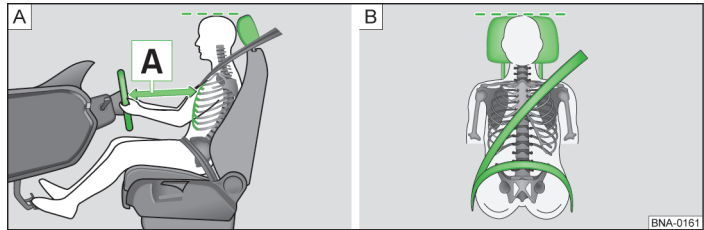

Fig. 14 The correct driver's distance from the steering wheel / Correct routing of the belt webbing and correct head restraint adjustment
- Adjust the head restraint such that the top of the head restraint is in line with the upper part of your head if possible – but not lower than the eye level. Always position the back of your head as close as possible to the head restraint » fig. 14 » page 28.
- Adjust the steering wheel such that the distance between the steering wheel and your chest is at least 10 inches (25 cm) [A] » fig. 14 » page 28 and the steering wheel can be held with both hands at the outer edge and arms slightly bent.